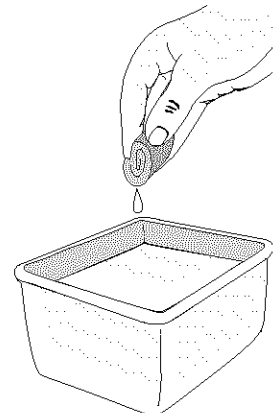

Fig. 24
- Wash the filter in detergent and water (Fig. 24). Rinse the filter thoroughly. Squeeze out excess water. Allow it to dry completely.